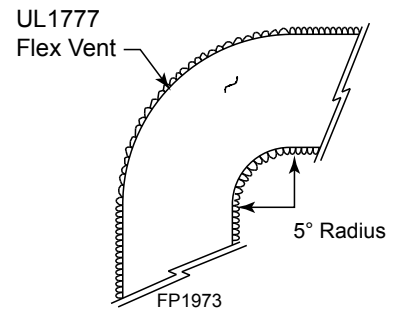

Figure 27 - Minimum Radius for Flex Vent Section
3. Do not allow the flexible vent to bend in radius tighter than 5°. *Figure 27*